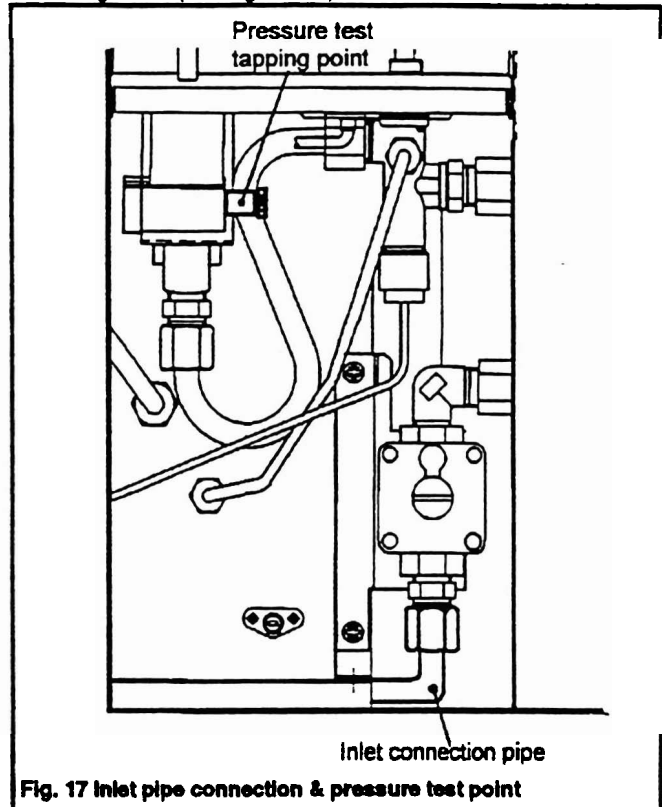

Fig. 17 Inlet pipe connection & pressure test point
11.4 Couple the gas inlet pipe to the connector below the regulator (see figure 17).
- 12.3 The burner manifold pressure is controlled by a built-in non-adjustable regulator. The correct pressure range is shown in the table in section 2 of this manual. The manifold pressure should be checked at the pressure test point which is located on the thermostat unit (see figure 17). The pressure check should be made with the appliance burning, the gas